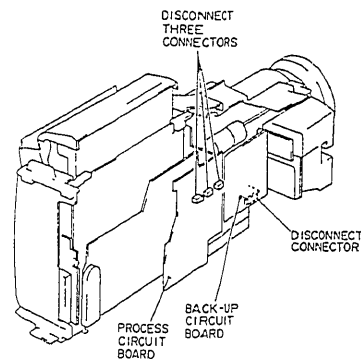

Fig. 2-4
- 7) Disconnect three (3) connectors (CN1801, CN1328, CN1329) on the process circuit board. (See Fig. 2-4)
- 10) Disconnect connector CN1861 on the back-up circuit board. (See Fig. 2-4)